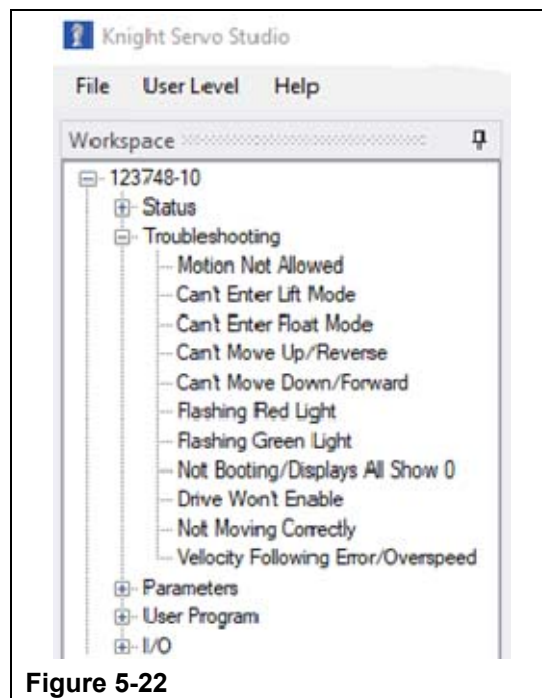

**Figure 5-21**
- Step 21. Check for any Drive Warnings. A warning will be designated by an illuminated yellow box next to the warning's description on the Active Warnings screen. See Chapter 7.B. for details. (Refer to Figure 5-21)